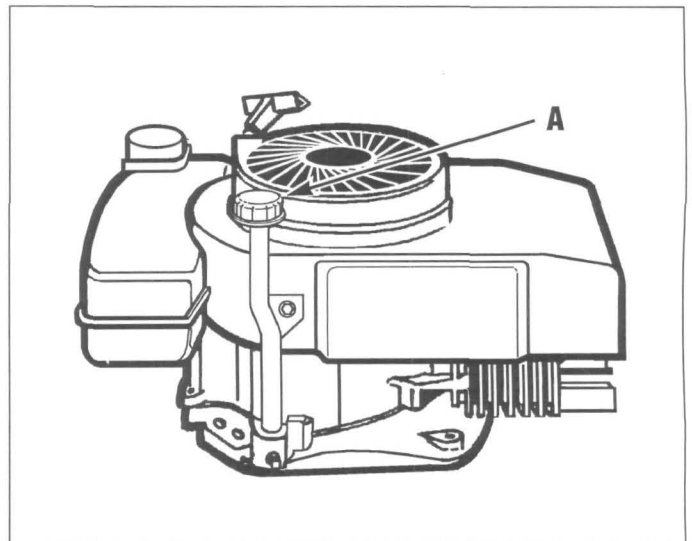

Figure 5: Remove dipstick to add oil to engine.
C. With the machine on level ground, remove the dipstick (A, Figure 5) and place it on a clean surface.